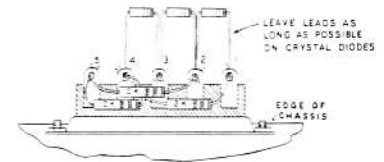
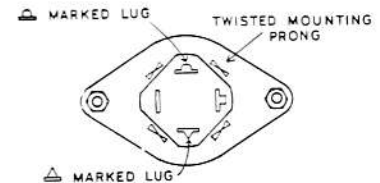

Figure 8
Figure 9
- (✓) Connect a 2K Ω resistor between lug 1 (NS) and lug 4 (NS). See Figure 8 and Pictorial 3.
- (✓) Connect a 10 K Ω resistor between lug 4 (NS) and lug 5 (NS).
- (✓) Connect another 10 K Ω resistor between lug 2 (NS) and lug 5 (NS). Make sure the lead wires do not touch connections to lug 4.
- (✓) Connect a 5 1/2" wire between lug 4 (NS) and the negative (-) lug (S) on the meter.
- (✓) Connect a 7 1/2" wire between lug 2 (NS) and the positive (+) lug (S) on the meter.
- (✓) Connect a crystal diode with the cathode lead (see page 23 for coding of cathode on diodes) to lug 1 (S) (2). Connect the other lead to lug 2 (NS). Leave leads as long as possible.
- (✓) Connect a second crystal diode with the cathode lead to lug 2 (S) (4). Connect the other lead to lug 3 (NS). Leave leads as long as possible.
- (✓) Connect a third crystal diode with the cathode lead to lug 3 (NS). Connect the other lead to lug 4 (S) (4). Leave leads as long as possible.
- (✓) Install the filter condenser on top of the chassis by passing the mounting prongs through the slots in the mounting wafer, (make sure the condenser is properly positioned) and twist the prongs 1/8 turn with a pair of pliers. See Figure 9 and Pictorial 1 on Page 7.